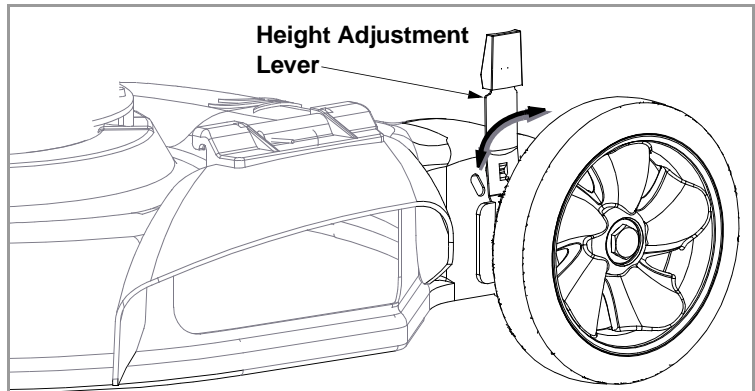

Figure 13
1. Depress the lever towards the wheel and slide the lever assembly to desired position for a change in cutting height. See Figure 13.